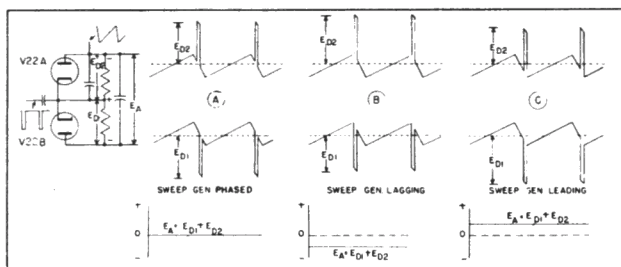

Fig. 10. AFC Waveshape (U and W Version)
The discriminator circuit makes use of a Type 6AL5 dual diode V22, which produces a d-c voltage (AFC) proportional to the phase displacement of the incoming sync pulse as compared to the output sawtooth voltage. The output sawtooth voltage is developed across C395. When in phase as shown in Figure 10(A), the d-c voltages across resistors R384 and R385 are of equal and opposite polarity resulting in zero voltage developed across C395. When the sawtooth voltage lags the sync pulse, as shown in Figure 10(B), a minus control voltage exists because the d-c voltage E_{D2} across R384 exceeds the voltage E_{D1} across R385. This minus voltage applied to V21A caused C400 to become less effective across the sine wave oscillator tank and the frequency is raised. In (C), the reverse condition exists and the correction takes place in the opposite direction. Thus the output of the discriminator swings from positive through zero to negative, depending upon the phase relation of the sync pulse and the sawtooth output.